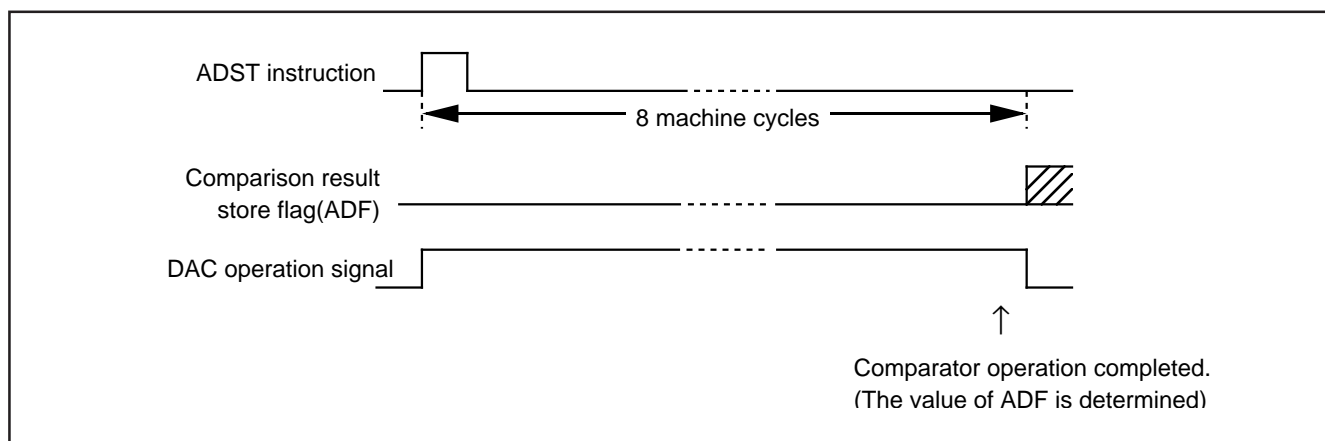

Fig. 28 Comparator operation timing chart
(12) Comparator operation start instruction (ADST instruction) (Figure 28)